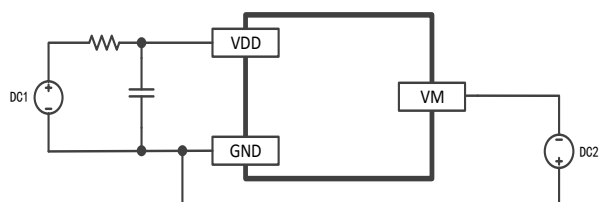

Figure6-1
- a. According to the figure6-1, connect the power supply DC1 to the B + and GND pins of the system board and set the voltage to about 3.6V. Connect the power supply from GND to VM to DC2 power supply and set 100mV current limiting 10mA. Observe the waveform.